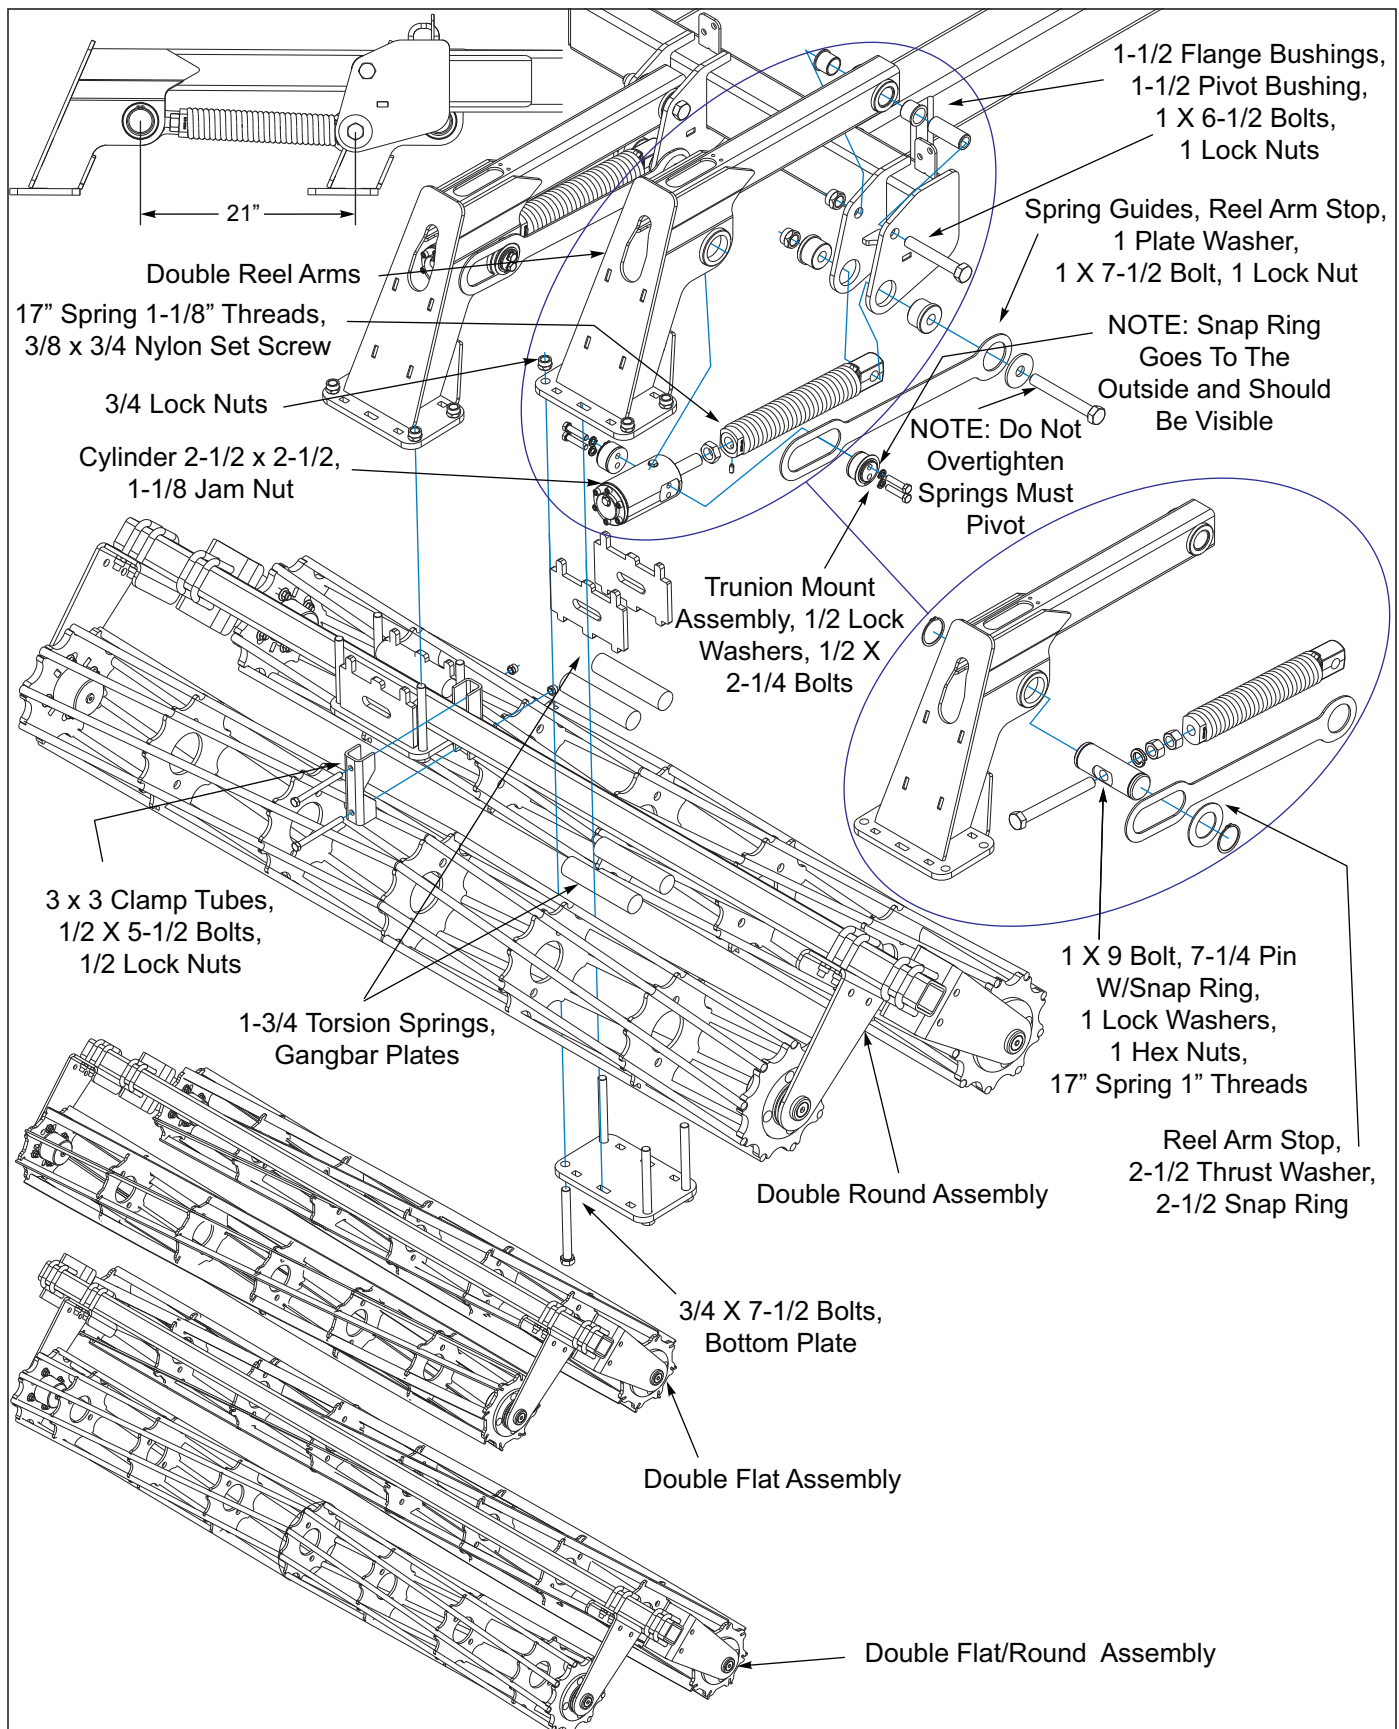

Figure 3-58: Double Reel Installation 7531-23'-32'
1. **For Standard Reel Option, See Figure 3-58.** Slide the adjustment pin through the rear of double reel arm. Center frame secure with (2) 2-1/2 snap rings, Wings slide slotted hole end of reel arm stop over outer side of LT/RT wings, 2-1/2 thrust washer and 2-1/2 snap ring, both sides.
2. Assemble the 1 x 9 bolt through adjustment pin, 1" lock washer, (2) 1" hex nuts, and 17" spring (1" threads) assembly.
6. Set pin centers to 21" dimension as shown **See Figure 3-58.**
7. **For hydraulic reel option See Figure 3-58.** Attach the cylinder 2-1/2 x 2-1/2, 1-1/8 jam nut, and 17" spring (1-1/8" threads) to rear of double reel arm. Center frame secure with trunnion mount assembly, 1/2 lock washers, 1/2 x 2-1/4 bolts, both sides. Wings slide slotted hole end of reel arm stop over outer side of LT/RT wings, trunnion mount assembly, 1/2 lock washers, 1/2 x 2-1/4 bolts, both sides.
11. Attach double reel assembly to reel arms using (2) gang bar plates, bottom plate, (4) 1-3/4 torsion springs, 3/4 x 7-1/2 bolts and 3/4 lock nuts as shown in **See Figure 3-58.**
12. Install the front and rear gang bar plates into the bottom plate with the longer tabs positioned upwards. Install (2) 1-3/4 torsion springs and position under reel gang bar, while lifting gang bar up close to double reel arm. Before the upper tabs engage slide in the top (2) 1-3/4 torsion springs. Insert the 3/4 x 7-1/2 bolts from the bottom upward and tighten alternating corner to corner until plates are tightly clamped together.
13. Attach the 3 x 3 clamp tubes, 1/2 x 5-1/2 bolts and 1/2 lock nuts on wings as shown **See Figure 3-58.**